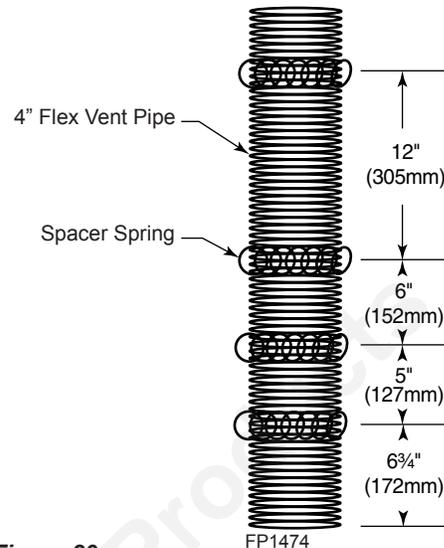

Figure 29 - Install Spacer Springs
Install the four (4) spacer springs on the 4" flex vent pipe. When installing the spacer springs around the 4" pipe, stretch the spring to approximately 15" (381 mm), wrap the spring around the pipe and interlock the ends of the spacer spring approximately 2" (51 mm). Measure 6¾" (172 mm) from the end of the pipe. Place the next spring 5" (127 mm) from the previously installed spring. Place the next spring 6" (152 mm) from the last spring. Finally place the last spring 12" (305 mm) from the last spring installed. *Figure 29*